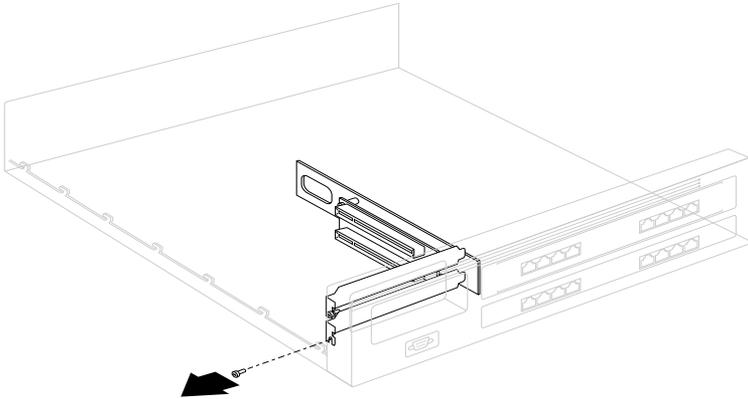

Figure 5: Cover Plate Removal
6. Using a #1 Phillips screwdriver, remove the screw that secures the cover plate to the uplink panel (Figure 5).